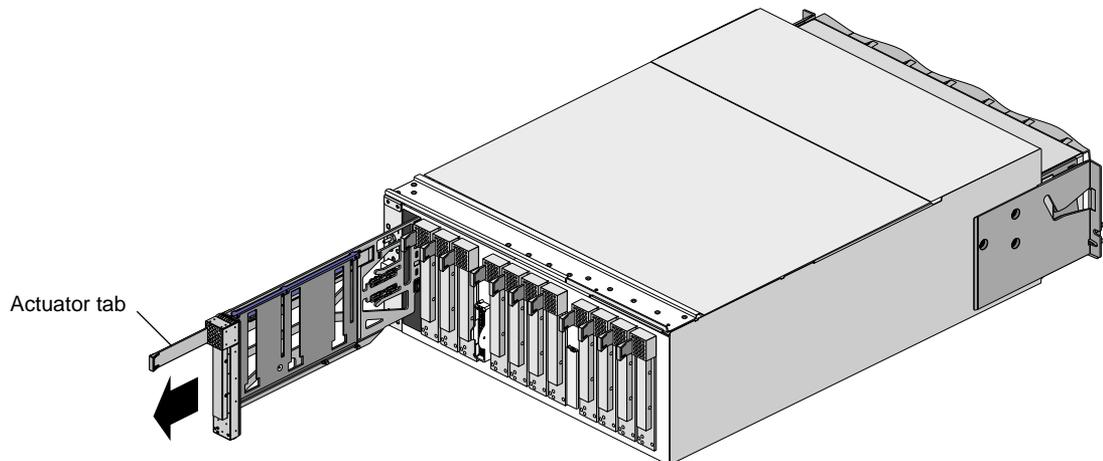

Figure 2-1 Removing a PCI Card Carrier
1. Remove the PCI carrier from the PCI slot in which you want to add or replace a PCI card. Pull out the PCI carrier actuator tab to extract it from the PCI slot; grasp the PCI card carrier by its edges and slide it out of the module, as shown in Figure 2-1.